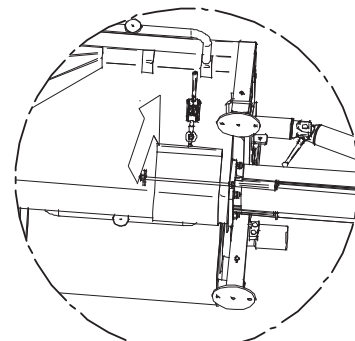

Fig. 10
- Open the discharge on the bottom of the hopper (Fig. 10)